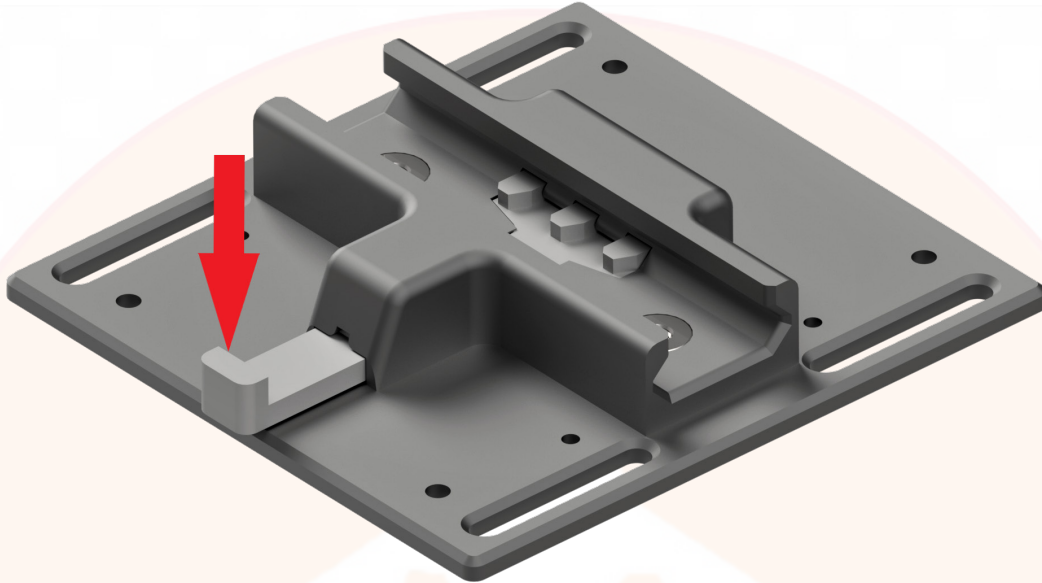

Figure 4: Picatinny Rail Lever
1. Push and hold the Picatinny Rail Lever (**Figure 4**), then slide the Radio Plate onto the Picatinny Rail located on the bottom of the aircraft.